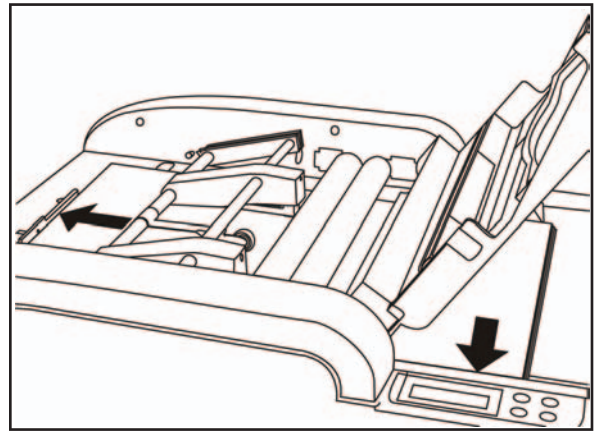

Fig. 6
2. Open the top cover and insert a set of sheets to be stapled. Align the paper with the edge of the scale (fig. 6).